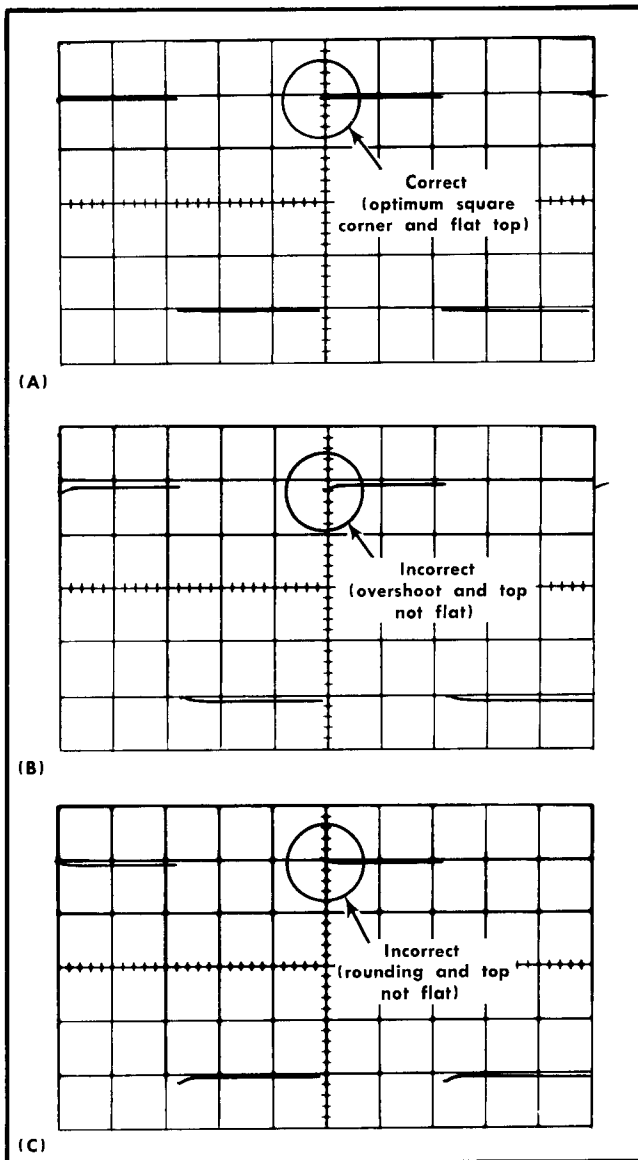

Fig. 5-6. (A) Typical CRT display showing correct compensation, (B) and (C) incorrect compensation.
d. CHECK—CRT display at each CH 1 VOLTS/DIV switch position for 3% or less overshoot, rolloff or tilt (see Fig. 5-6). Adjust the square-wave generator output amplitude as needed to maintain a four-division display (except in 2, 5 and 10 positions where display will be less than four divisions).
d. CHECK—CRT display at each CH 2 VOLTS/DIV switch position for 3% or less overshoot rolloff or tilt (see Fig. 5-6). Adjust the square-wave generator output amplitude as needed to maintain a four-division display (except in 2, 5 and 10 positions where display will be less than four divisions).